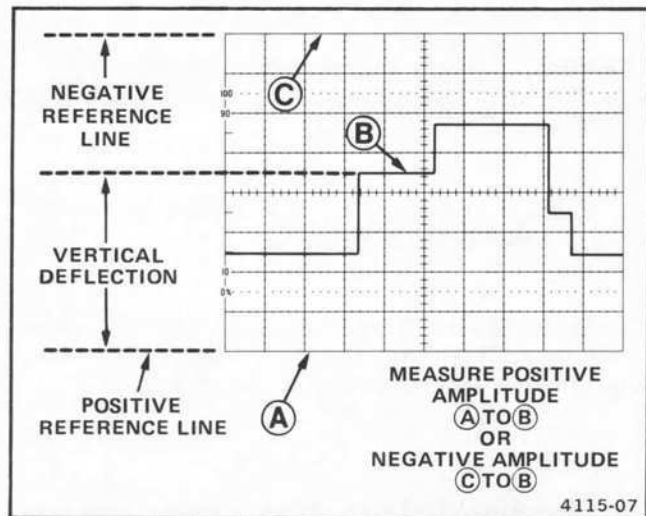

Figure 14. Instantaneous voltage measurement.
11. Measure the divisions of vertical deflection between the reference line and the desired point on the waveform at which the dc level is to be determined (see Figure 14).
**EXAMPLE:** The measured vertical deflection from the reference line is 4.6 divisions (see Figure 14), the waveform is above the reference line, the VOLTS/DIV switch is set to 2, and a 10X attenuator probe is being used.